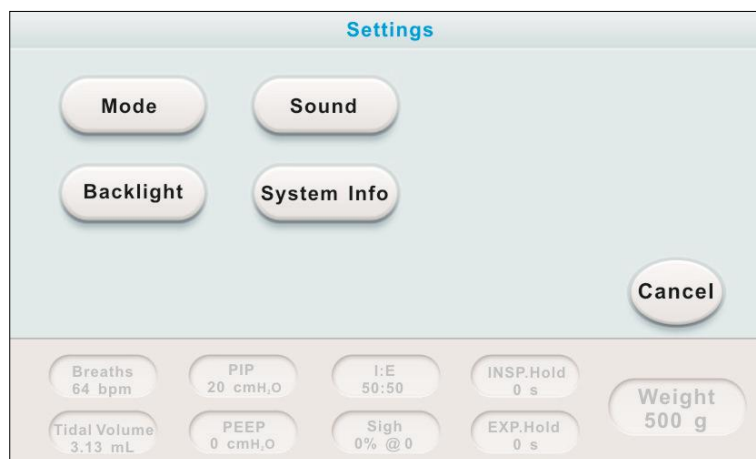

Figure 7.3
- Enter mode selection submenu by press **Mode** button in the Settings Menu (see Figure 7.3), the user can switch ventilation mode between **Volume Mode** and **Pressure Mode**.
- Enter sound control submenu by press **Sound** button in the Settings Menu (see Figure 7.3), the user can choose to activate audible alarms on **Over Pressure** (high airway pressure) / **Under Pressure** (low airway pressure) / **Occlusion** (pipeline blocked) / **High PEEP** (high expiratory pressure) / **System Error** (system error alarm) / **Touch Sounds** (touch button tone).
Enter backlight control submenu by press **Backlight** button in the Settings Menu (see Figure 7.3), the user can select a desired backlight brightness from 20% to 100% in the slider.
Enter system information submenu by press **System Info** button in the Settings Menu (see Figure 7.3), it allows the user to view the software version, power-on time and run time information.